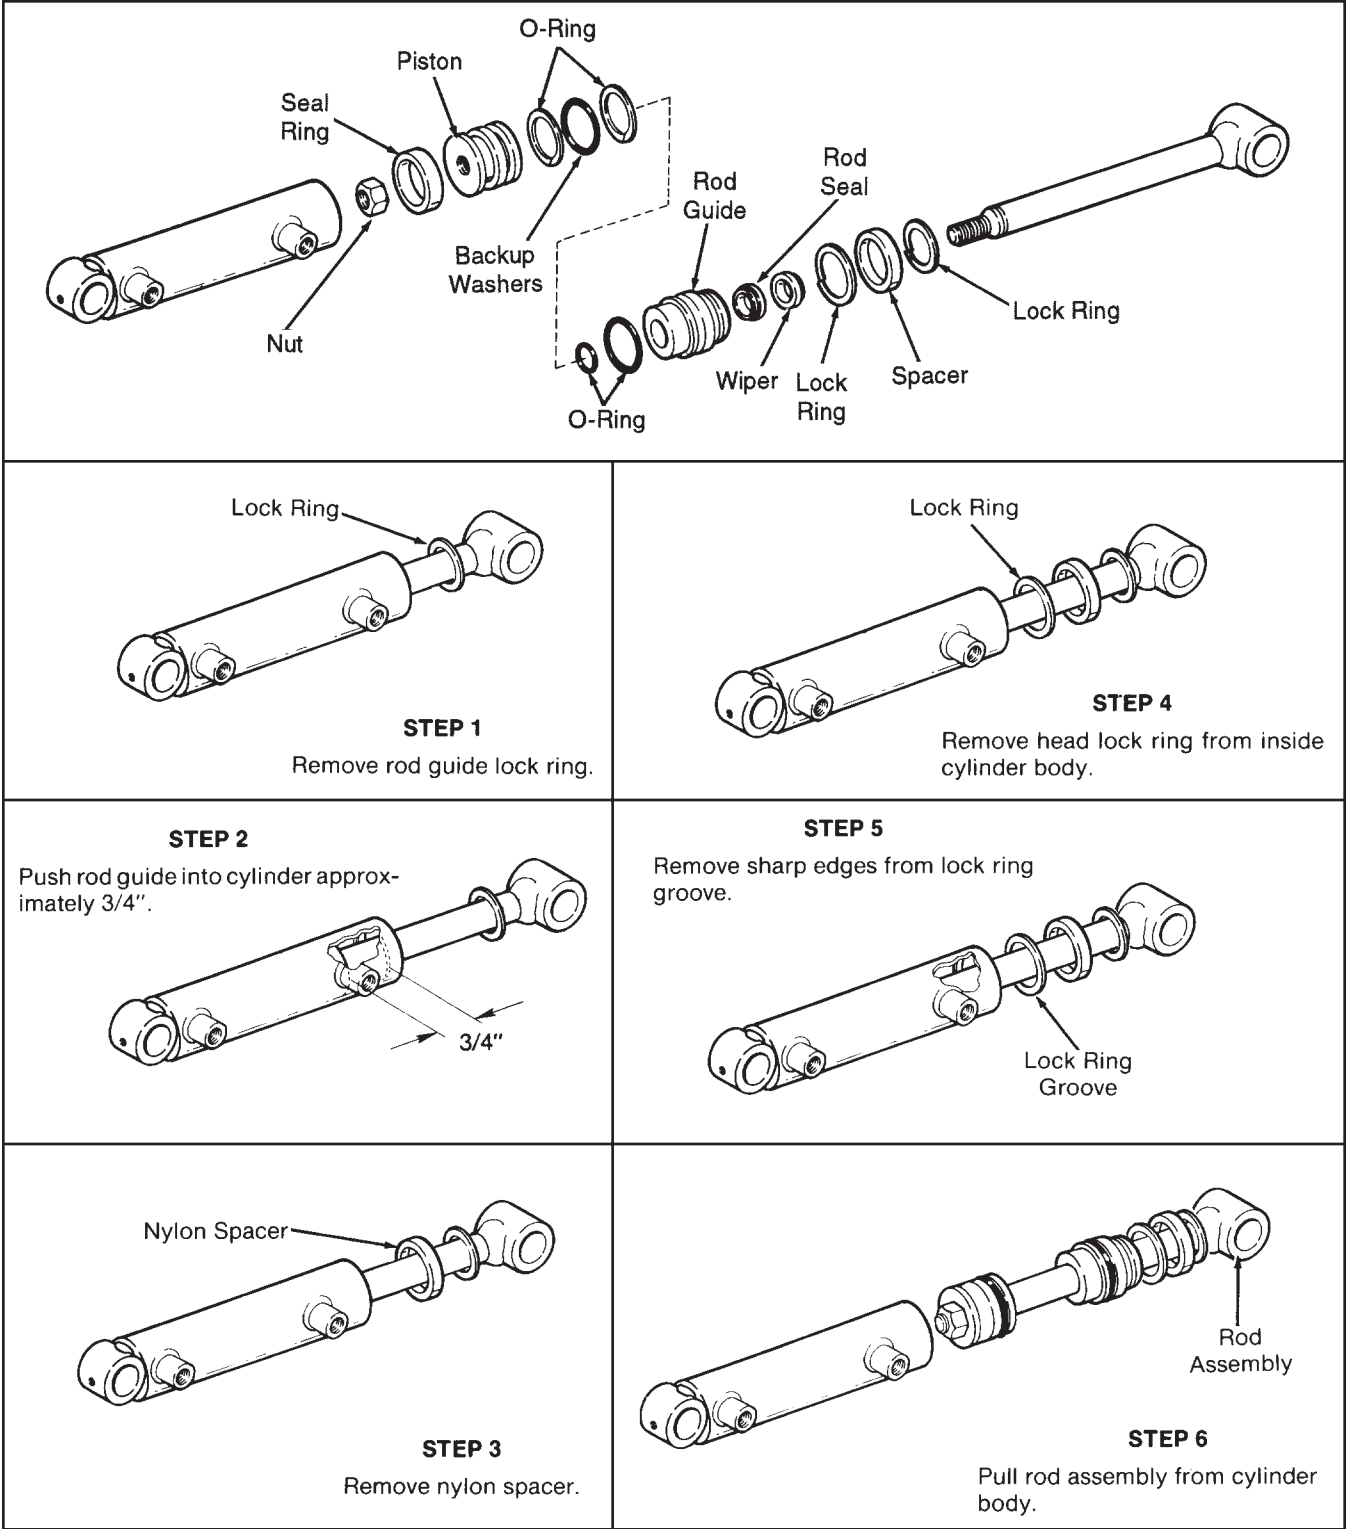

Figure 8L-4. Wing Cylinder Disassembly
4. Disassemble remainder of cylinder as shown in Figure 8L-4.